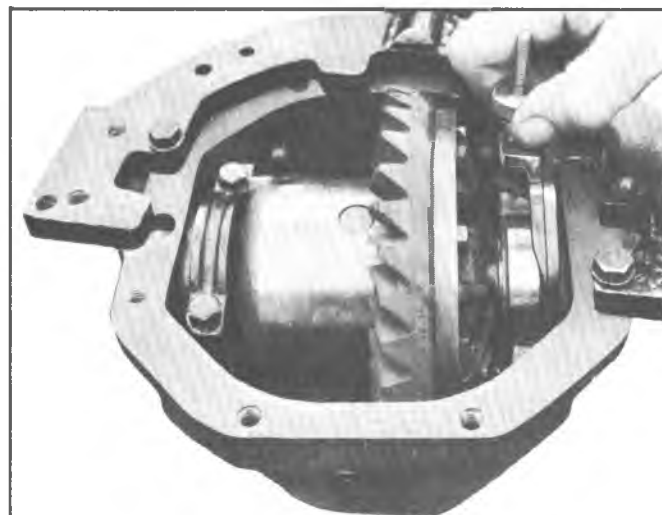

Fig. 9C—Measuring Differential Shim Requirement
5. With the ring gear tight against the pinion gear (.000" to .001" backlash), insert gauging Tool J-22779 between the left bearing cup and carrier housing. See Figure 9C. Turn adjusting nut clockwise while oscillating the tool until a noticeable drag is produced.